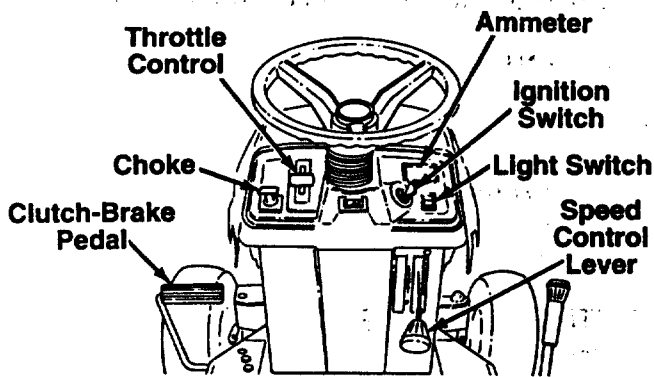

FIGURE 7.
The throttle control is used to regulate the engine speed. To get maximum efficiency from cutting, the throttle should be in the FAST position when operating the mower. See figure 7.
The choke control is located on the dashboard and is operated manually. Details for the choke operation are covered in the separate engine manual. See figure 7.
The speed control lever allows you to regulate the ground speed of the lawn tractor. See figure 7. To select the ground speed, depress clutch pedal. Push speed control lever inward and move downward to slow lawn tractor, move upward to increase speed. When desired speed has been obtained, release lever in that position. Whenever clutch is engaged, unit will automatically go to the pre-set speed.
Turn the key to the START position to start the engine. When the engine is running, let the key return to the ON position. To stop the engine, turn the key to the left to the OFF position and remove it to prevent accidental starting. See figure 7.
Push the light switch to turn on the lights. The lights will only operate when the engine is running. See figure 7.
The clutch-brake pedal is located on the left side of the lawn tractor. Depressing the clutch-brake pedal part way disengages the clutch. Pressing the pedal all the way down disengages the clutch and engages the disc brake. See figure 7.
3. Set the throttle control in the FAST position. See figure 7.
5. Turn the ignition key to the START position. When the engine is running, let the key return to the ON position. See figure 7.